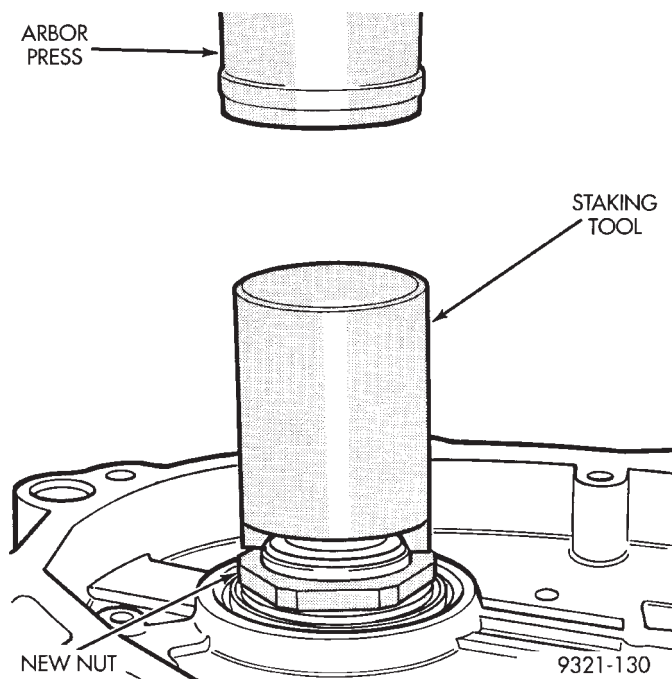

Fig. 152 Staking Output Shaft Nut
(8) The new nut must be staked after the correct turning torque is obtained (Fig. 152). Use special tool 6639 to stake output shaft nut and special tool 6589 to stake transfer shaft.